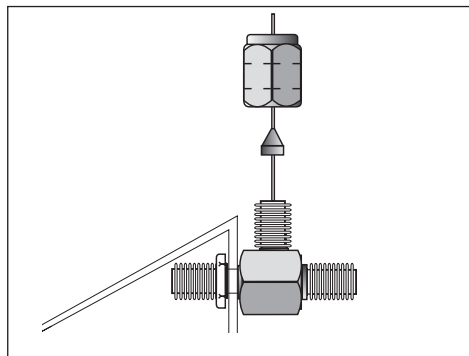

Figure 2. Connecting the atmospheric detector tubing to the column flow splitter
3. The restrictor that connects the column flow splitter to the atmospheric detector (FID, ECD, etc.) is labelled 'FID Restrictor.' Remove the restrictor from the packaging and slide a SilTite™ nut and ferrule onto the tubing as shown in Figure 2.